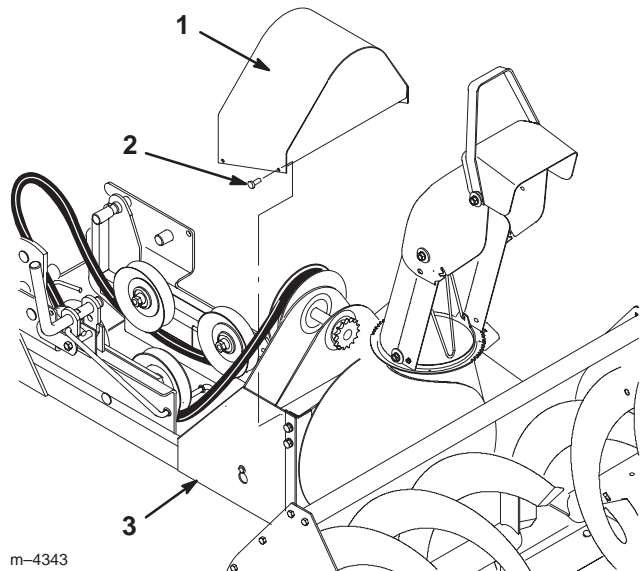

Figure 43
3. Remove the pulley cover from the snowthrower frame assembly, by removing the (4) #10 x 1/2” (13 mm) screws (Fig. 43).
7. Attach the pulley cover to the snowthrower frame assembly with (4) # 10 x 1/2" (13 mm) screws (Fig. 43)